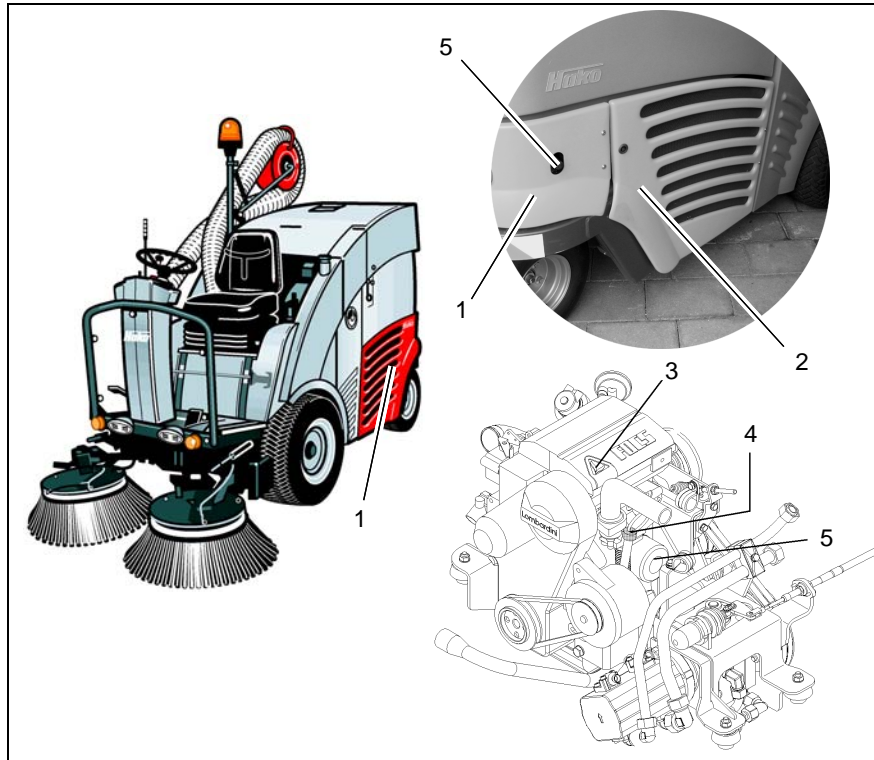

Fig.14
1. Park the vehicle on a level surface with the engine at operating temperature. Raise the sweepings container using the lever (Fig. 14/5).
3. If necessary, unlock the side panel (Fig. 14/2) with a square wrench and open it.
4. If necessary, unscrew the retaining screws and remove the side panel (Fig. 14/1).
Check the engine oil level with the oil dipstick (Fig. 14/4) every day. Refill engine oil as necessary or when the engine oil pressure control lamp lights up.
4. Open the cap (Fig. 14/3). Do not pour in too much oil at one time. Allow the oil a few minutes to run into the oil sump. Then measure the oil level again.
4. Disassemble the oil filter (Fig. 14/5) and install a new oil filter with a new sealing ring (tighten hand-tight).